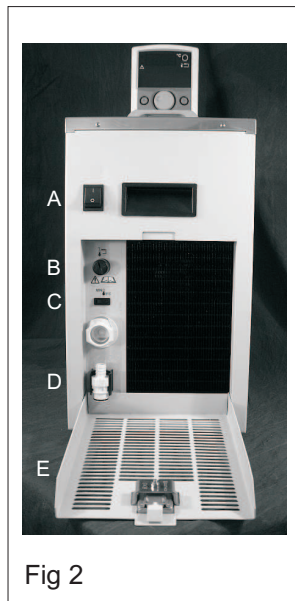

Fig 2
3.1 Controls and features (see Fig 2)